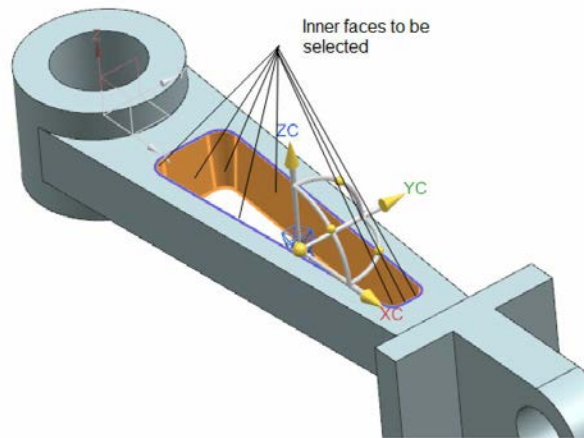

Figure 7-139 Inner faces to be selected
- c. Change the display of the created extrude feature, refer to Figure 7-139.
5. Click in the **Select Face** area and select all the inner faces of the cavity region, refer to Figure 7-139.